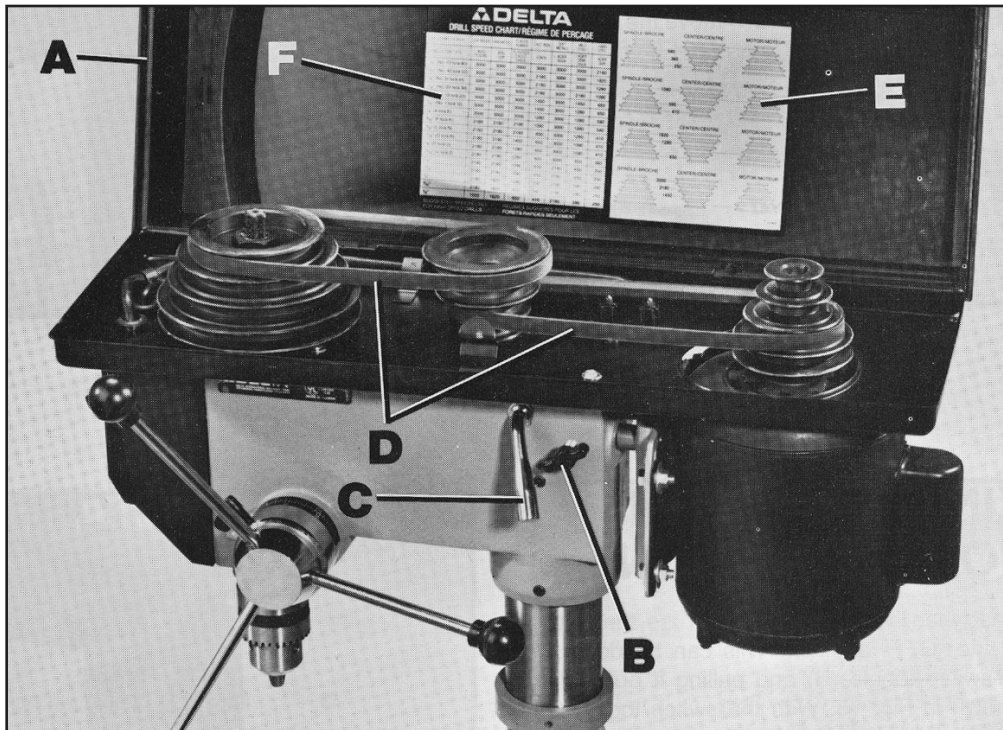

Fig. 16
2. Lift up belt and pulley guard (A) Fig. 16.
3. Loosen tension lock knob (B) Fig. 16, along with the tension lock knob located on the other side of the head casting.
4. Release belt tension by moving tension lever (C) Fig. 16, forward.
5. Position the two belts (D) Fig. 16, on the desired steps of the motor, center and spindle pulleys. NOTE: A belt positioning chart (E) and a drill speed chart (F) is provided on the inside top cover of the drill press for your convenience.
6. After the belts are positioned on the desired steps of the motor, center and spindle pulleys, move tension lever (C) Fig. 16, to the rear until the belts are properly tensioned and tighten the two tension lock knobs, one of which is shown at (B). The belts should be just tight enough to prevent slipping. Excessive tension will reduce the life of the belts, pulleys and bearings. Correct tension is obtained when the belts (D) can be flexed about 1" out of line midway between the pulleys using light finger pressure.